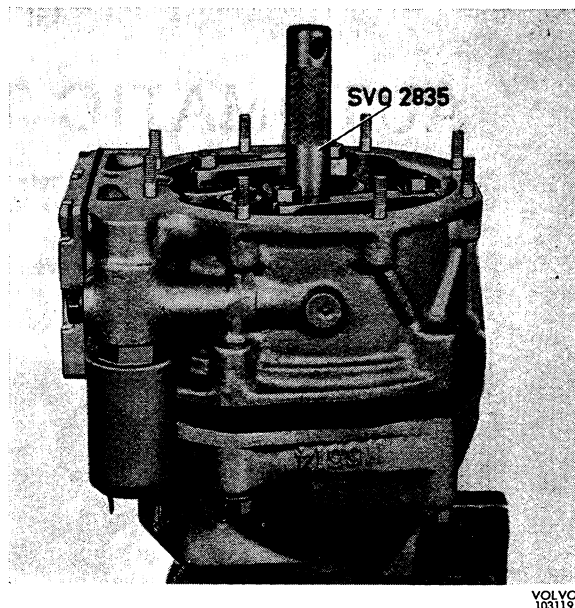

Fig. 4-50. Fitting front casing
5. Install the brake ring on the front casing. Place the front casing on the rear one. Fit washers and nuts, see Fig. 4-50. Note that both the copper washers should be fitted on the upper bolts. Tighten the bolts a little at a time until they are tightened evenly all round.